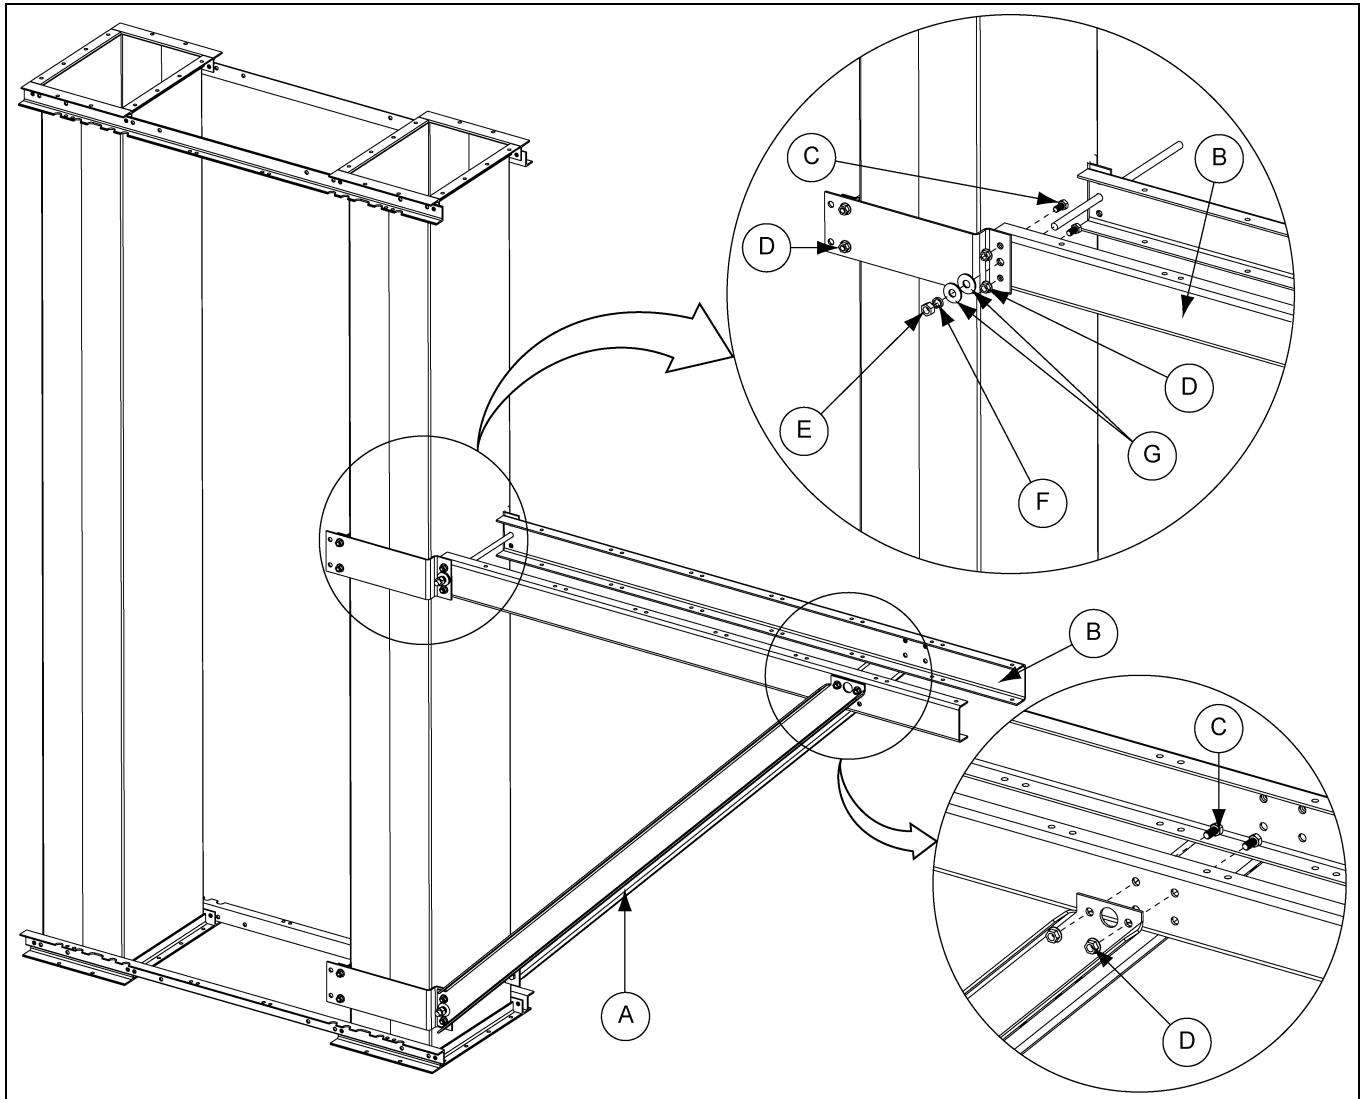

Figure 13B
Insert rod (DSP36008) through middle hole in the bracket, attached to the platform support channel (DSP36005) (B) using 5/8" hex nut (S-4110) (E), 5/8" lock washer (S-3208) (F) and two (2) 5/18" flat washers (S-858) (G). The knee braces will attach in the upper set of holes on side of support channels using 1/2" hardware (S-4492 and S-8506) (C and D). (See Figure 13B.)